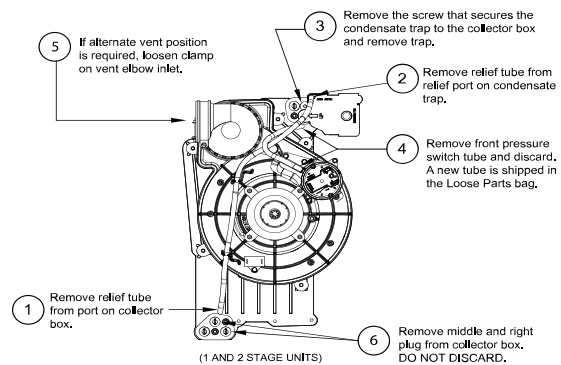

**Fig. 10 – Horizontal Right Trap Configuration
When the furnace is installed in the horizontal right position, the condensate trap will be initially located at the bottom of the collector box, as received from the factory. See the top image in Fig. 10. When the furnace is installed in the horizontal left position, the condensate trap will be initially located at the top of the collector box, as received from the factory. See the top image in Fig. 11. In both cases the trap must be repositioned on the collector box for proper condensate drainage. See the bottom images in Fig. 10 and Fig. 11.
- Fig. 10 shows the condensate trap and tubing before and after relocation in the horizontal right position.